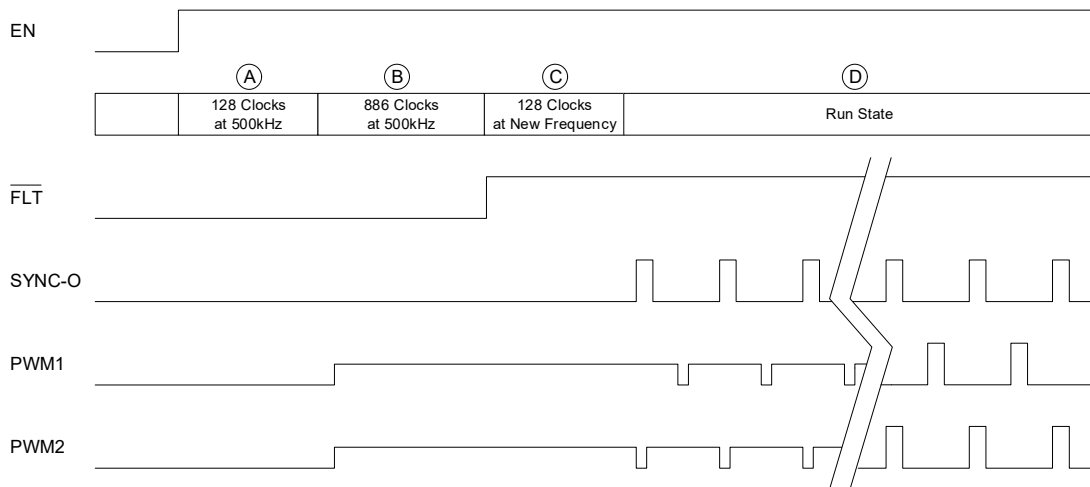
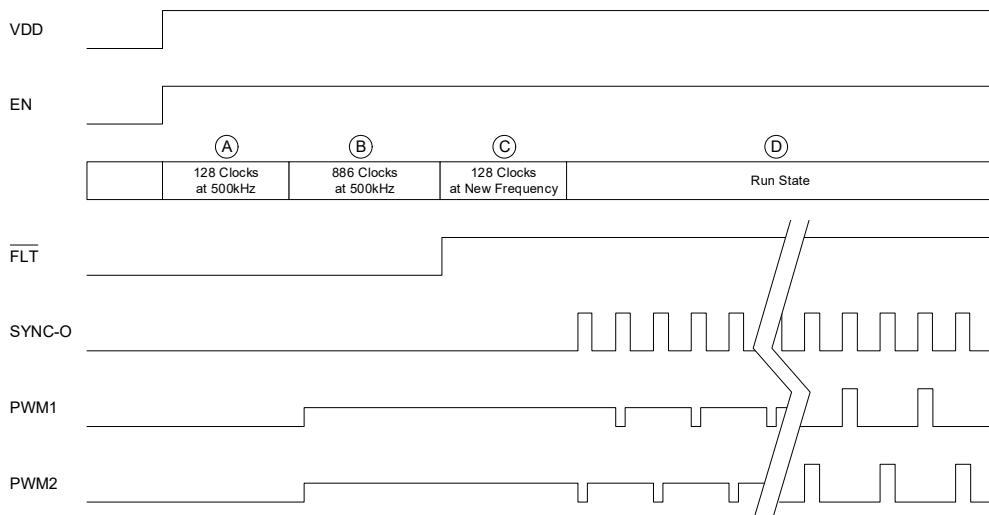

Figure 50. Start-Up Timing Diagram ( $R_{\text{SYNC-O}} = \text{OPEN}$ )
Figure 51. Start-Up Timing Diagram ( $R_{\text{SYNC-O}} = 100\text{k}\Omega$ )
When the ISL73847SEH first powers up, it goes through several states before boot refresh and soft-start. After VDD has crossed the rising UVLO threshold, the oscillator waits for 128 clock cycles at 500kHz before allowing the digital core to enter its configuration state. The configuration state lasts 886 clock cycles at 500 kHz. When the digital core completes its configuration, it signals the oscillator to switch to the frequency set by the FS pin or SYNC-I. After an additional 128 clock cycles at the new frequency, boot refresh pulses commence, followed by soft-start. Figure 50 and Figure 51 illustrate the start-up sequence.
During states A and C in Figure 50 and Figure 51, the oscillator blanks the clock signal to the digital core. Therefore, the oscillator has time to stabilize its frequency before entering the configuration state (B) or run state (D).